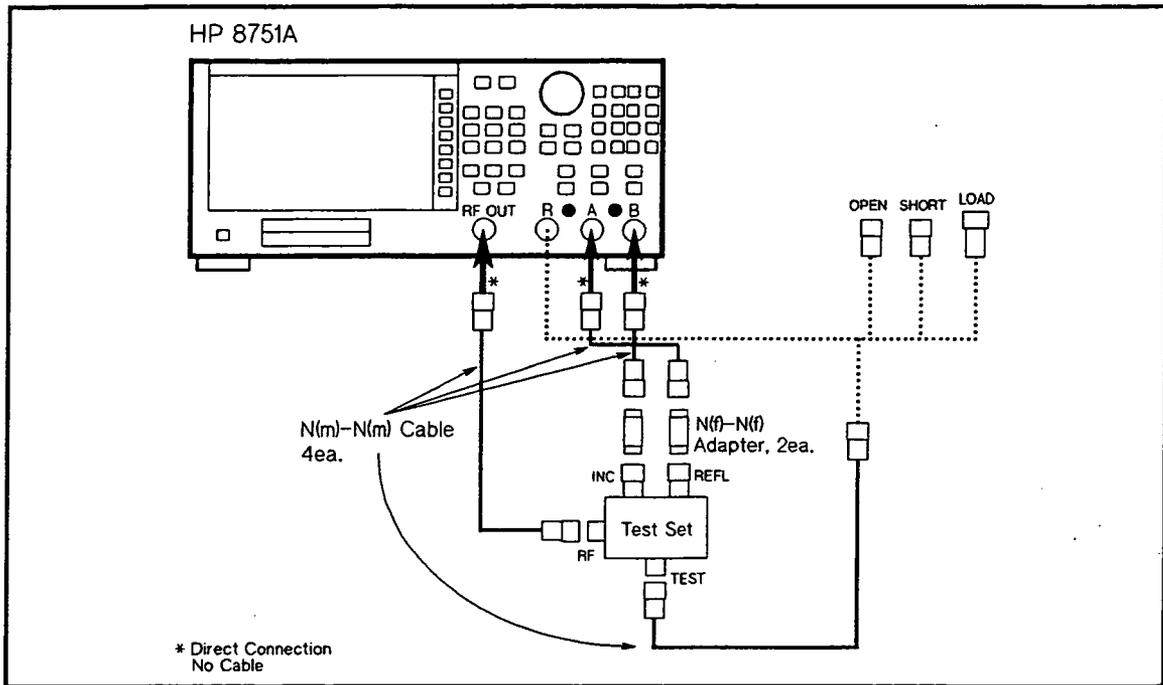

Figure 1-6. Input R Impedance Setup
- a. Connect the equipment as shown in Figure 1-6.